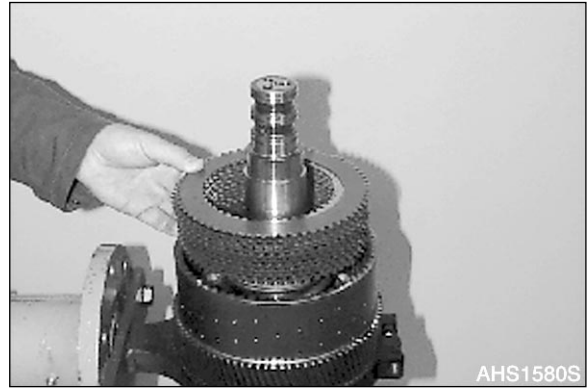
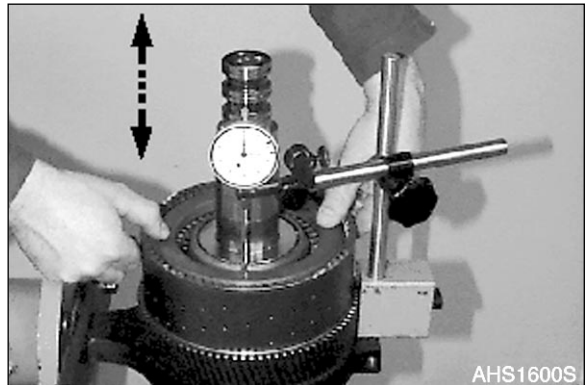

Figure 198
Figure 200
1. Check plate clearance $K3 = 2.6 - 2.8 \text{ mm}$ (Figure 198 - Figure 200).
- C. Press the end shim on with about 100 N (10 kg) and set the dial indicator to "Zero" (Figure 200).